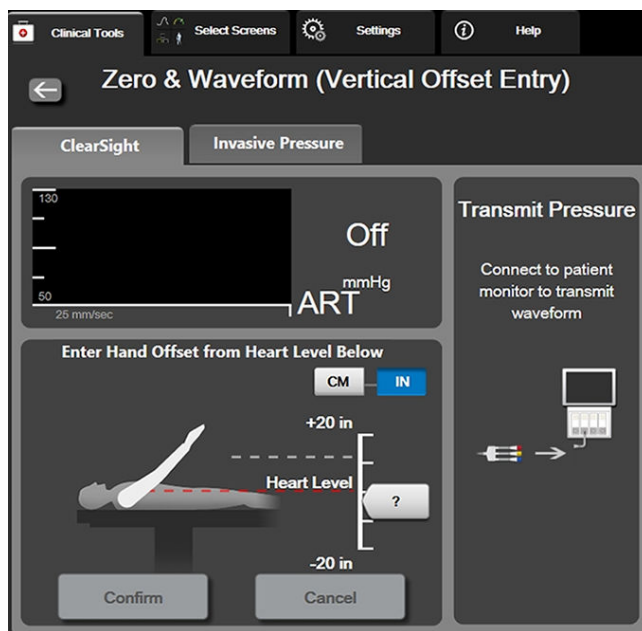

Figure 11-6: Zero & Waveform screen – Vertical Offset Entry
3. The **Zero & Waveform** screen in this mode (shown in Figure 11-6 on page 212) will depict a vertical scale bar to represent the offset of the hand relative to the heart; the heart level is set at zero. A positive offset signifies a patient position where the hand is above the heart. Select the units of the scale bar: **CM** or **IN**.